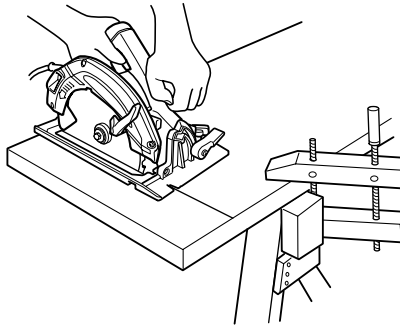

Fig. 4
**WARNING:** It is important to support the work piece properly and to hold the saw firmly to prevent loss of control which could cause personal injury. Fig. 4 illustrates typical hand support of the saw.